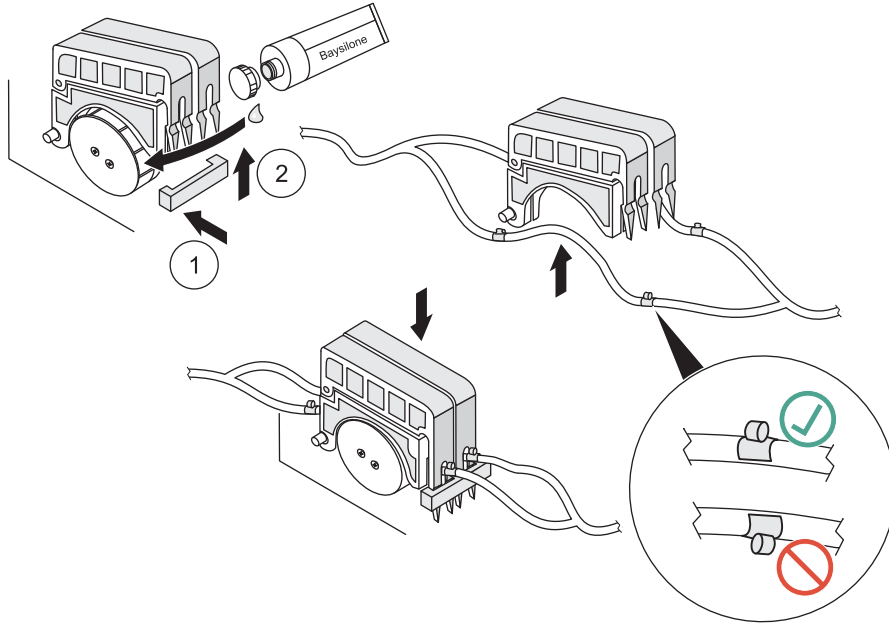

Figure 23 Pump tube replacement
10. Disengage the pump cassette (refer to Figure 23 Pump tube replacement on page 38).